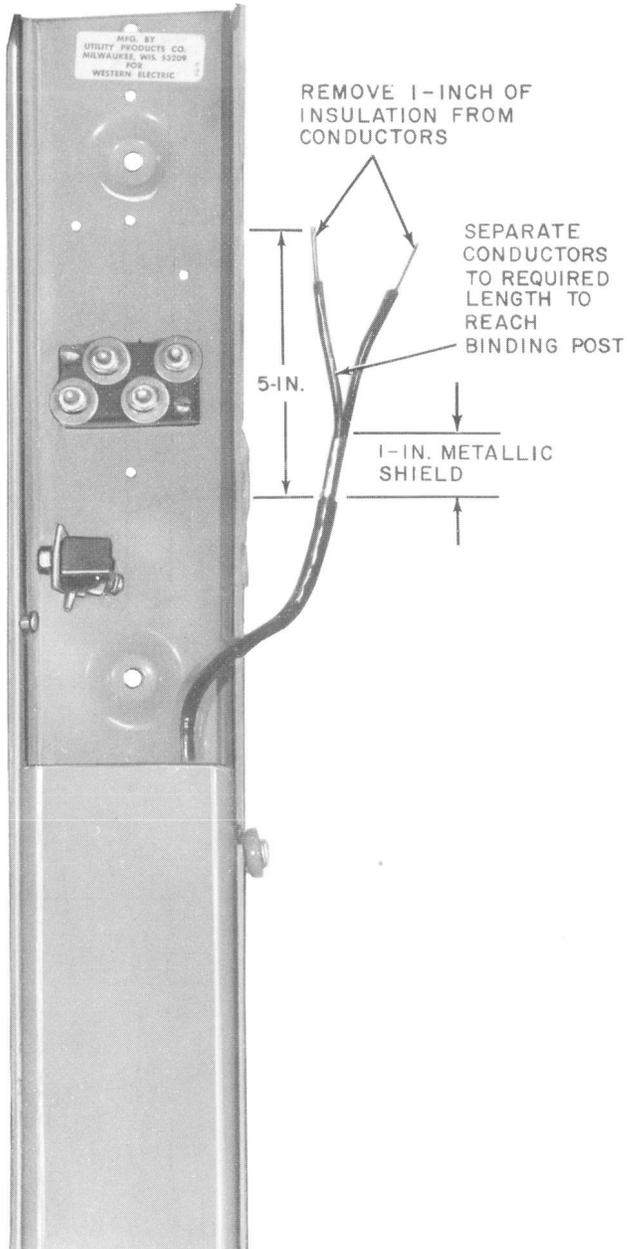

Fig. 5—Prepared Buried Wire
5.02 Prepare the E buried wire as shown in Fig. 5.